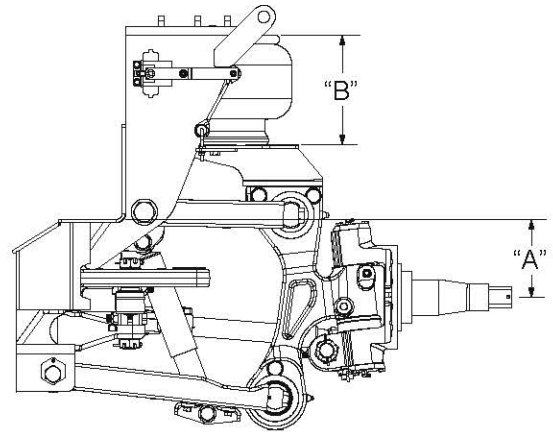

Figure 8 - Ride Height Measurement
3. Verify the ride height by measuring from wheel center to the bottom of the frame ("A") or air spring height ("B"). If the dimensions are not within +/- .125" of (Figure 8), readjust.
4. The actuation arm of the height control valve should be horizontal at ride height (Figure 8). See section for adjusting to correct ride height.